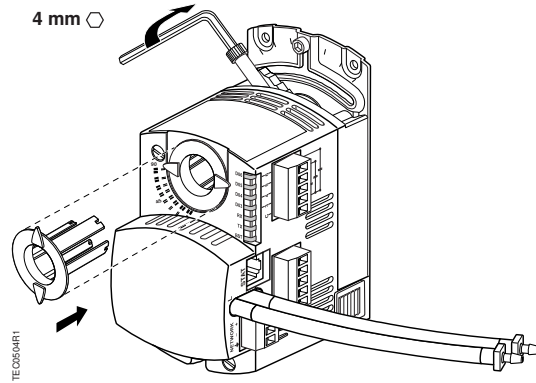

Figure 9. Position Indicator and Adjustment Lever.
7. Install the position indicator, Figure 9.